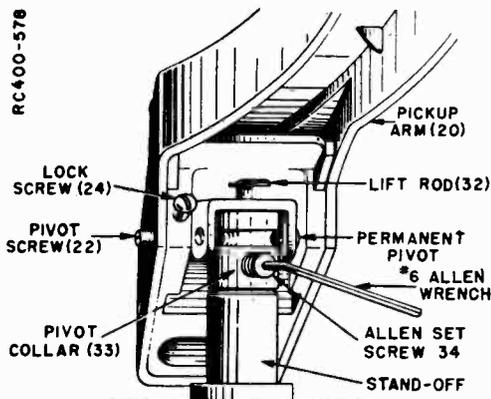

Figure 5. Pickup Arm Mounting Detail.
1. Insert the 45 RPM centerpost (2); set the speed change knob (19) to the "45" position; move the reject knob (42) to the "Rej" position and then rotate the turntable (clockwise) by hand JUST to the point where the pickup arm stops moving in toward the centerpost and starts moving downward. DO NOT ROTATE THE TURNTABLE BEYOND THIS POINT.
2. Insert a #6 Allen wrench into the Allen set screw (34) on the pivot collar (33) as shown in Figure 5. Do NOT loosen the Allen set screw.
REMOVING THE PICKUP ARM (See Figure 5)